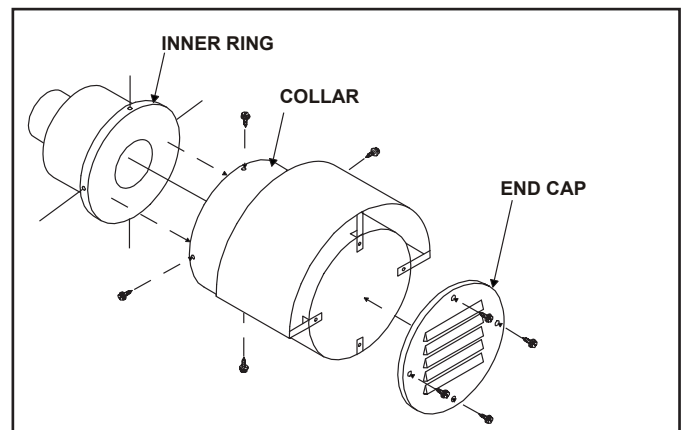

Figure 4.47
- C. Fasten the wire mesh to the 10-1/2" collar to cover the exhaust port hole, using (4) sheet metal screws.
- D. Slide the inner ring inside the cap assembly, carefully positioning the inner ring to its original orientation. See Figure 4.47. Carefully align the screw holes on the 10-1/2" diameter collar and the inner ring.